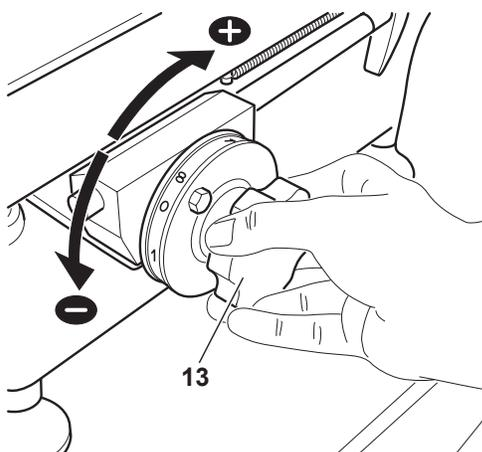

Figure 12-2
- Pull the slice thickness control dial (13) out towards operator and turn clockwise to the desired setting (Figure 12-2).